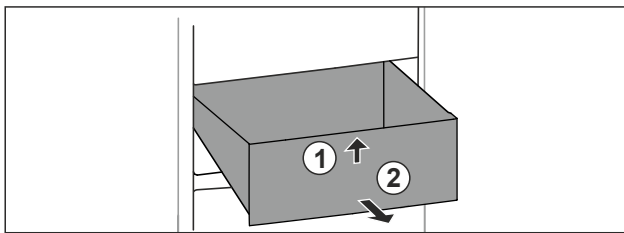

Fig. 72
- ▶ Lift up drawer at the front. Fig. 72 (1).
- ▶ Remove drawer to the front. Fig. 72 (2).